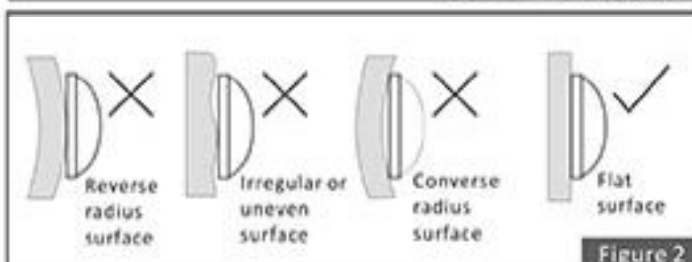

Figure 2
8. The Mounting location **MUST** be a flat surface. (Fig 2)